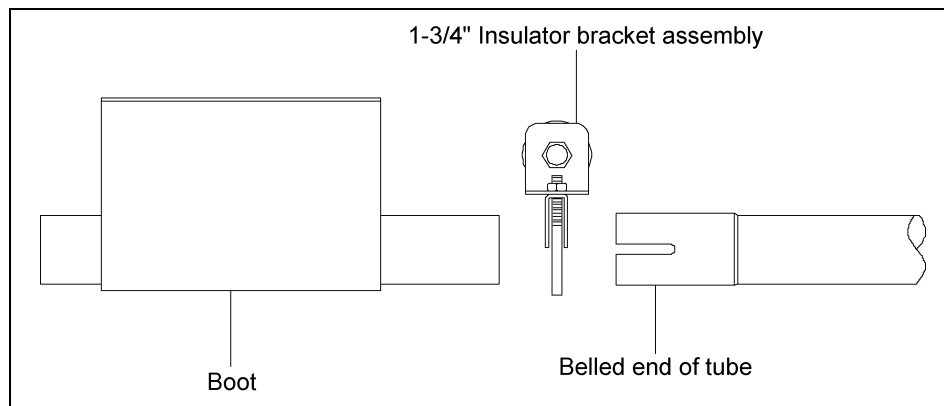
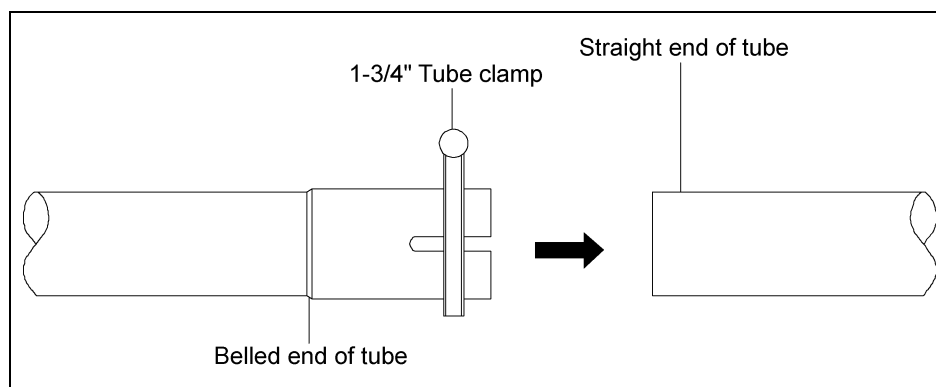

Figure 7W
Figure 7X
1. Place the boot in its approximate final position: Single boot at the end of the house, double boot in the center of the house. (See Figure 7W.) Assemble the auger tubing the length of the building, starting with the bell end towards the boot. (See Figure 7W and Figure 7X.)